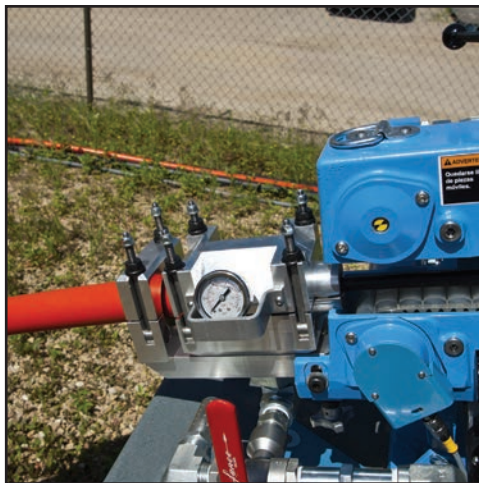

Figure 56. Close Air Block Cover
11. Close Air Block Cover (Figure 56). Tighten nuts securely, but do not over tighten. Use cross tightening procedure to completely secure.